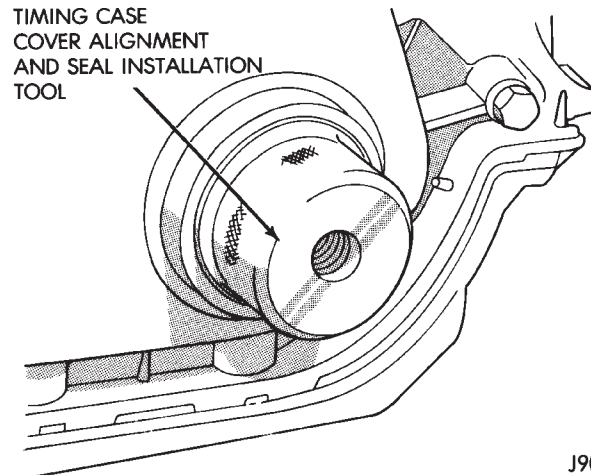

Fig. 45 Timing Case Cover Alignment and Seal Installation Tool 6139
- (6) Install the crankshaft oil slinger.
- (7) Tighten the camshaft sprocket preload bolt to 108 N·m (80 ft. lbs.) torque.
- (8) Check the valve timing.
- (9) Lubricate the tension spring, the thrust pin and the pin bore in the preload bolt with Mopar Engine Oil Supplement, or equivalent. Install the spring and thrust pin in the preload bolt head.
- (10) Coat both sides of the replacement timing case cover gasket with gasket sealer. Apply a 3 mm (1/8 inch) bead of Mopar Silicone Rubber Adhesive Sealant, or equivalent to the joint formed at the oil pan and cylinder block.
- (11) Position the timing case cover on the oil pan gasket and the cylinder block.
- (12) Place Timing Case Cover Alignment and Seal Installation Tool 6139 in the crankshaft opening in the cover (Fig. 45).
- (13) Install the timing case cover-to-cylinder block bolts. Install the oil pan-to-timing case cover bolts.
- (14) Tighten the 1/4 inch cover-to-block bolts to 7 N·m (60 in. lbs.) torque. Tighten the 5/16 inch front cover-to-block bolts to 22 N·m (192 in. lbs.) torque. Tighten the oil pan-to-cover 1/4 inch bolts to 14 N·m (120 in. lbs.) torque. Tighten the oil pan-to-cover 5/16 inch bolts to 18 N·m (156 in. lbs.) torque.
- (15) Remove the cover alignment tool and install a replacement oil seal into the cover.
- (16) Install the vibration damper on the crankshaft.